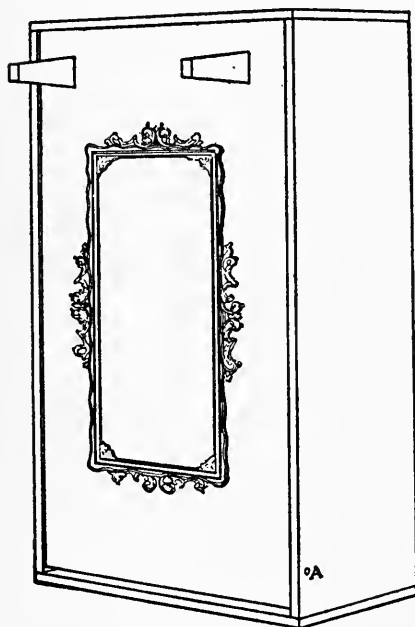

FIG. 139. — A Doll's Folding-bed.
In Figs. 139 and 142 will be found some pieces of furniture that are simpler to make than that just
**A Folding-bed**, such as is shown in Figs. 139 and 140, select two cigar-boxes, one of which will fit inside the
larger one, as shown in Fig. 139, so that the bottom of the inner box is flush with the edge of the outer box. Then drive a brad through both boxes on each side, about three-quarters of an inch from the end as shown at *A* (Fig. 139). These brads should run through the outer box into the bottom of the inner box, and should be driven in carefully so as not to split the wood. The inner box should now fold down as shown in Fig. 140,